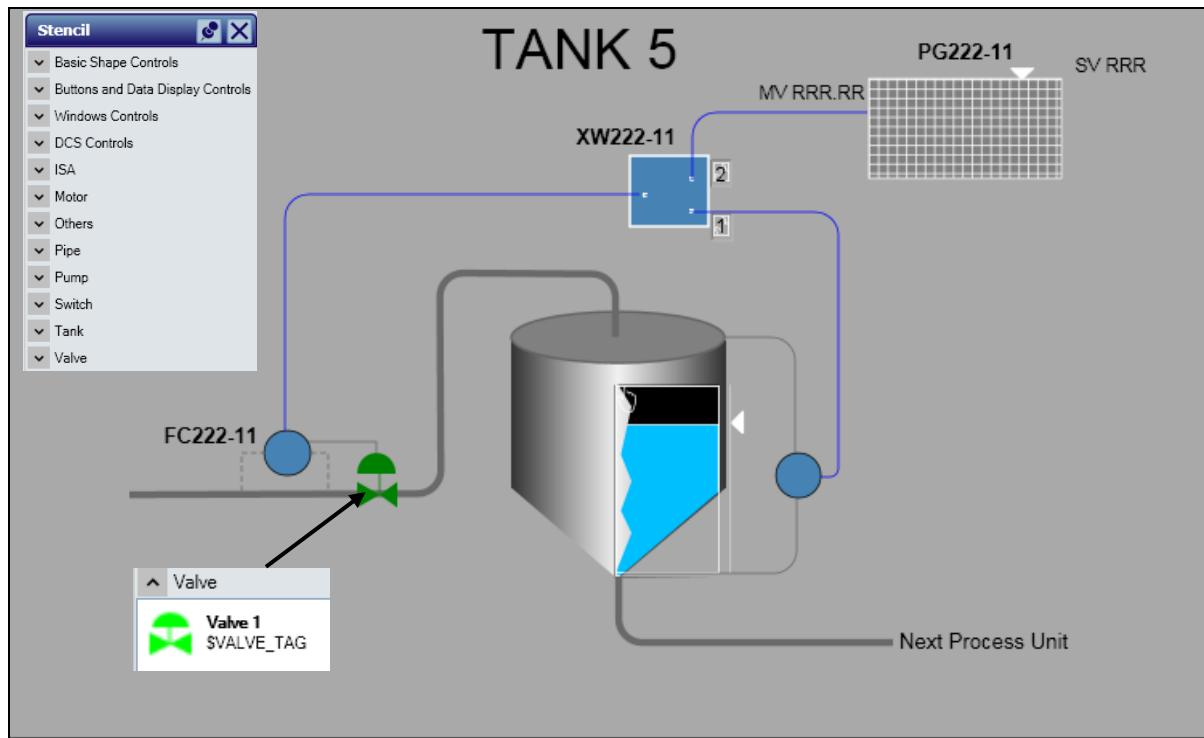

Figure 7.3
- 11.2. Place it on the piping as shown in **Figure 7.3** and scale to your liking by clicking and dragging one of the boxes on the symbol.